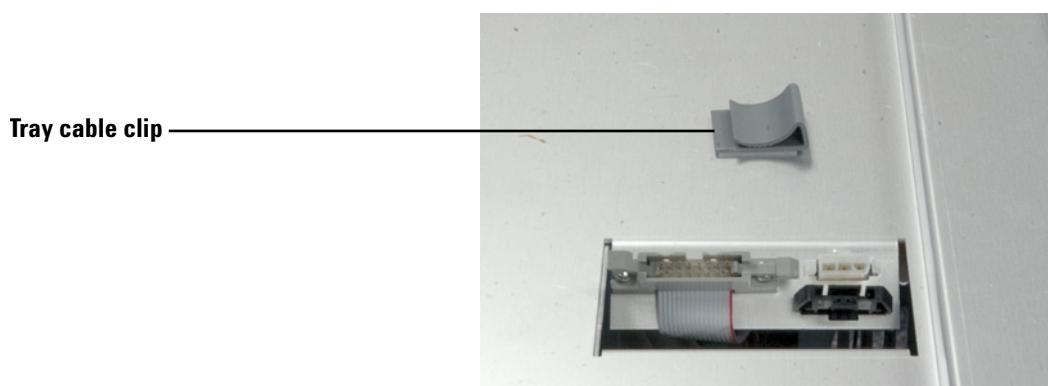

Figure 5 Tray cable clip
- 2 Slide the cables out of the tray cable clip (Figure 5).